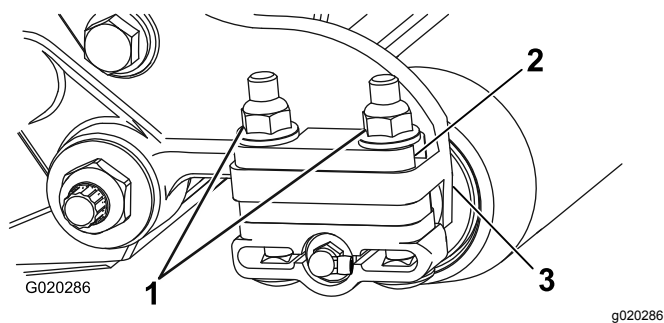

Figure 12
17. Remove the 2 flange lock nuts securing each roller bracket to the side plates (Figure 12).